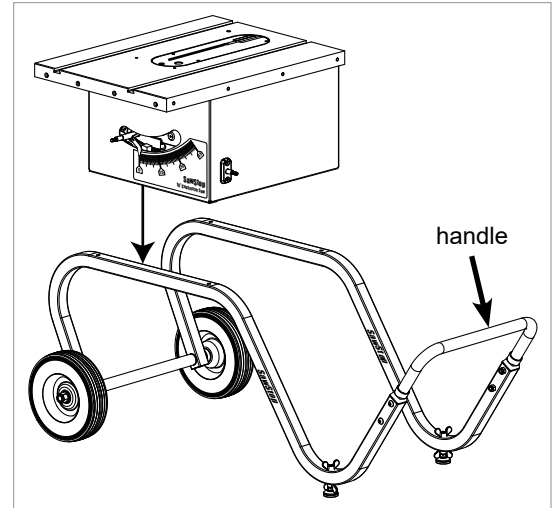

Fig. 10
10. The mobile cart is now ready to support a SawStop Contractor Saw. With the help of an assistant, pick up the saw and carefully set it on the mobile cart. Make sure the front of the saw is oriented so the mobile cart handle is to the right, as shown in Fig. 10. While moving the saw, do not set it down in the upright position on a solid surface because a dust shroud in the saw extends beneath the bottom edge and could be damaged.